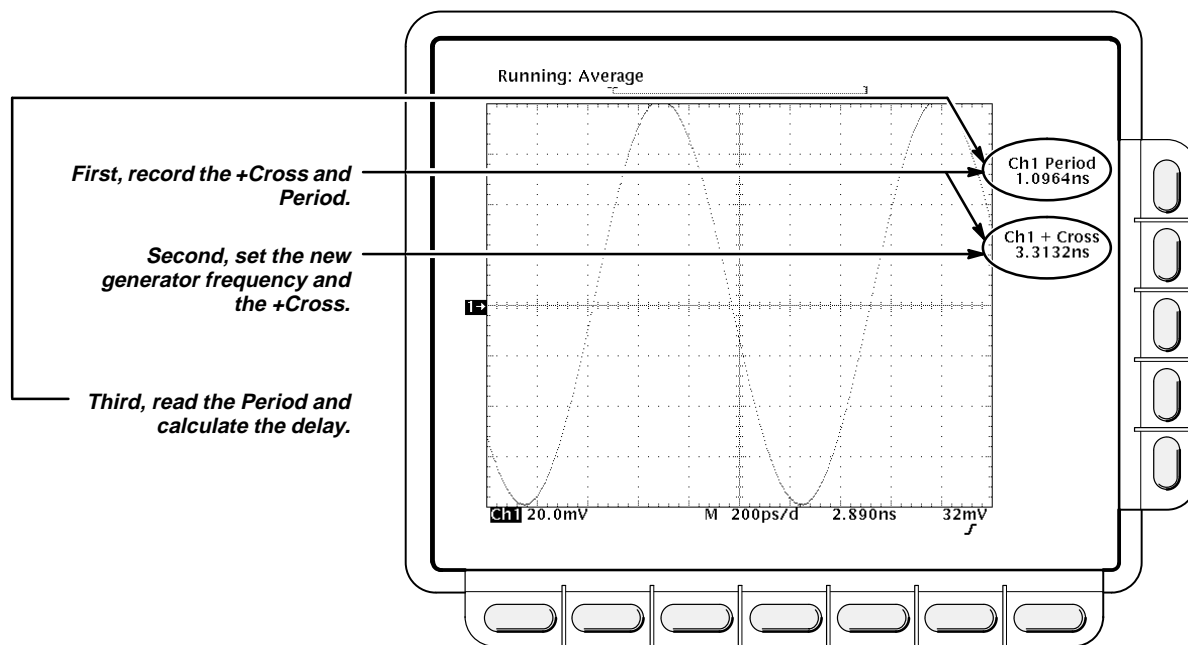

Figure 1-16: Measurement of Accuracy — Single Channel Delta Time Measurement at 100 ps
- CHECK that the difference in periods is within 95 ps to 105 ps (see Figure 1-16).